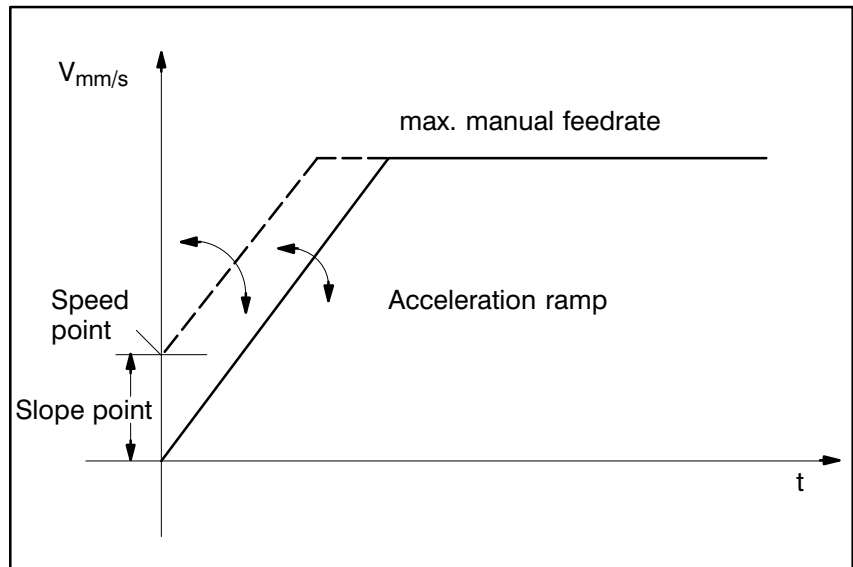

Figure 1
- The slope point is set to the maximum speed if operation without slope is desired (see Figure 1).